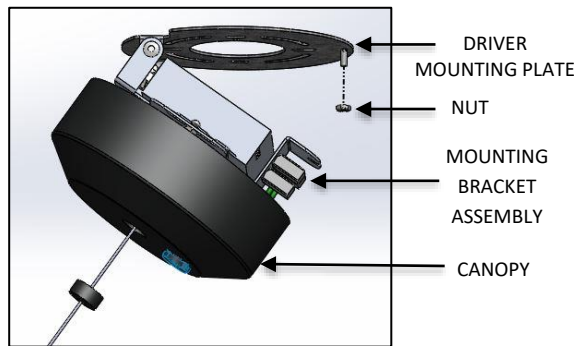

FIG. 7 – MOUNTING PLATE
3. Unscrew the NUT securing MOUNTING PLATE to driver MOUNTING BRACKET. Swing driver mounting bracket down and out of the way as shown below in FIG. 7.